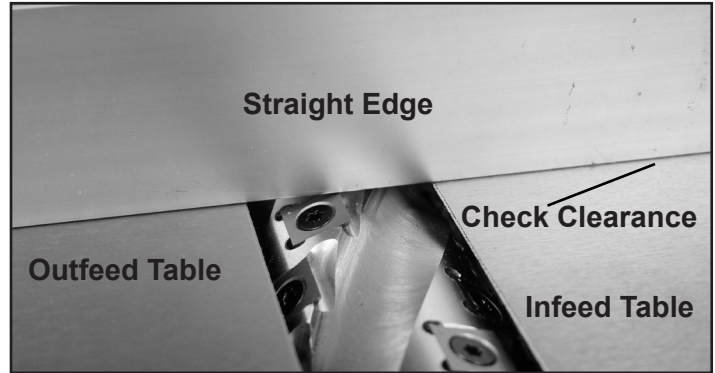

FIG. 33
5. Lie the straight edge across BOTH tables. FIG. 33. They should be set at the same height and perfectly level to each other.
Raise or lower the table adjustment handle (not shown) and check the clearance between the straight edge and infeed table as shown in FIG. 33.